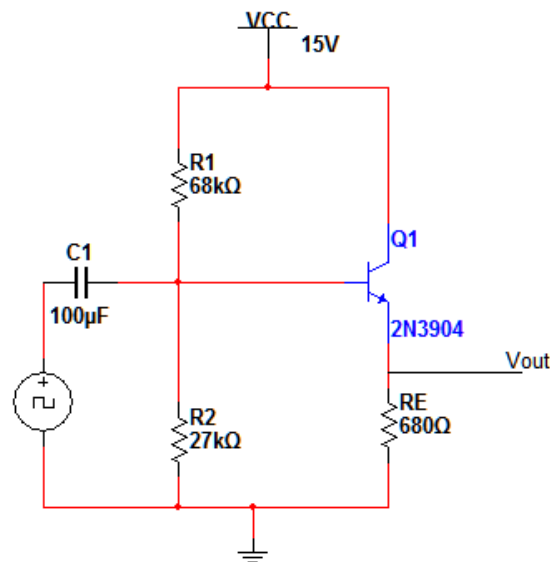

Figure 2: Common Collector Amplifier
1. Utilizing the kit, make the connections according to Figure 2 without using the Bypass circuit that is capacitor C_2 should remains unconnected.